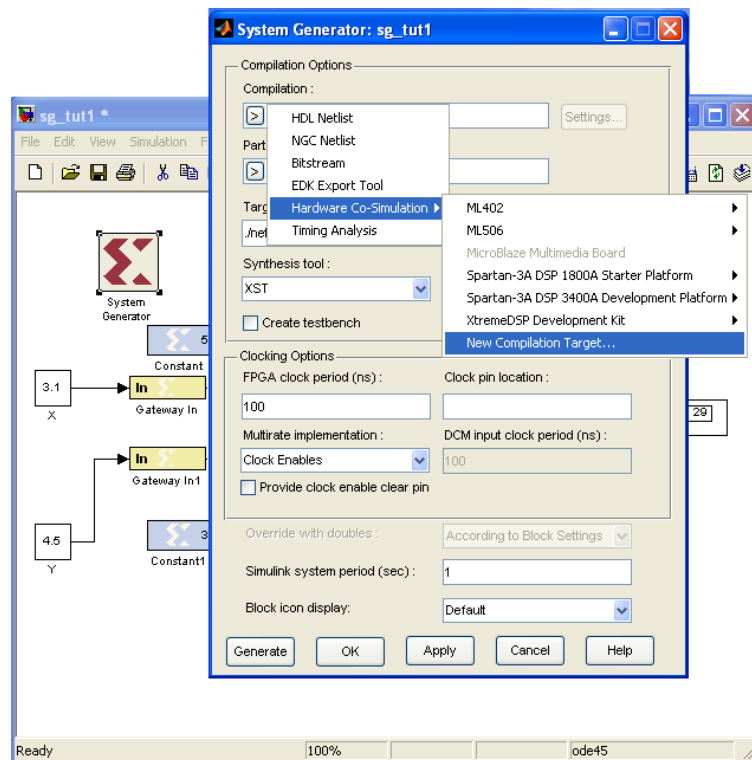

Figure 19: Configure System Generator for HW/SW Co-Simulation - Compiling a new Board
- Double click on the System Generator block. A dialog box will show up as shown in Figure 19. This dialog box allows you to select the type of the hardware generated using system generator.